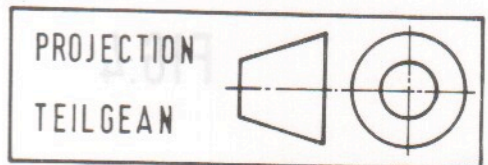

FIG. 3
- (b) Fig. 3 shows a crank/rod/slider mechanism. Crank AB rotates about A while C slides up and down the centre line of the slider. Using a line diagram to represent the linkage, plot the locus of point P for one revolution of B about A.